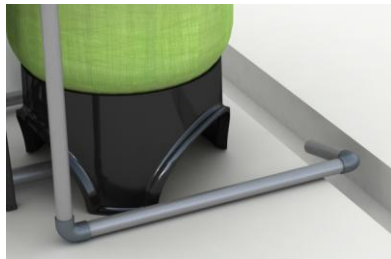

Figure 1-5
e. Use DN65 (Outer diameter is $\phi 75$) UPVC pipeline stick to the drain, drain pipeline should directly to the sewer, the sewer and the drain pipeline should installed as Figure 1-5.